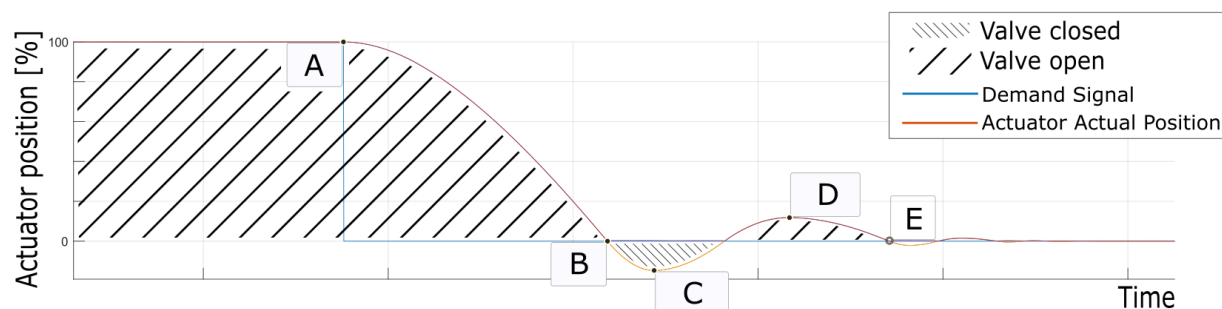

Figure 2-2. Failure Mode
Bounce is an effect of a bumper-like action of the soft stop spring (described above). Bounce will occur only on loss of electrical power to the DVP, certain wiring faults, and in rare cases of internal fault conditions within the positioner. When the actuator remains under the control of the positioner, there will be no bounce on closing the valve as the positioner will decelerate the actuator close to demand position. An example of bounce action can be seen in Figure 2-2.
In Figure 2-2, before the time (A) position demand is 100% and the actuator holds its position, with the valve open. At the time (A), the position control is lost, and the actuator is back driven by the return spring only. Note that from the point (A) the actuator is no longer under the control of the positioner. The return spring drives the actuator and valve to the 0% position (B) – the valve is shut, but the actuator motor rotor continues to rotate and drive into the soft stop mechanism, dissipating the rotary motion energy. At the time (C), the energy stored in the bumper soft stop mechanism begins to drive the actuator back into the open direction. At this time, the maximum impact load is exerted on the valve stem. Energy stored in the soft stop mechanism is high enough to compress the return spring and thus open the valve when moving toward point (D). The maximum bounce is observed at time (D). Each subsequent bounce is significantly smaller, up to the point of complete equilibrium (E) (less than a few bounces).
1 Position measured at maximum bounce-back, characteristic point (D), according to Figure 2-2. Specified at maximum operating temperature, when tripped from full 3 in stroke.
2 This is a maximum impact load (thrust in extended direction) that actuator will exert during "Shutdown Position" or a "Shutdown System" unpowered trip, corresponds to point (C), according to Figure 2-2.